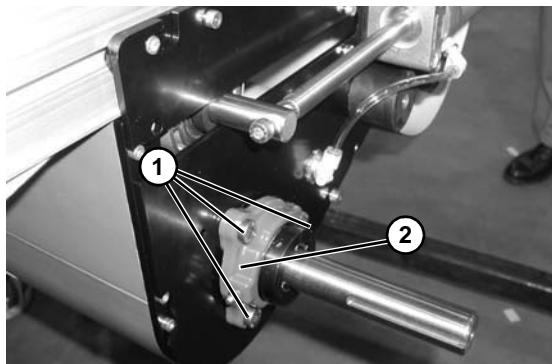

Figure 127
4. Remove the three (3) mounting screws (**Figure 127, item 1**).
5. Remove and replace bearing housing assembly (**Figure 127, item 2**).